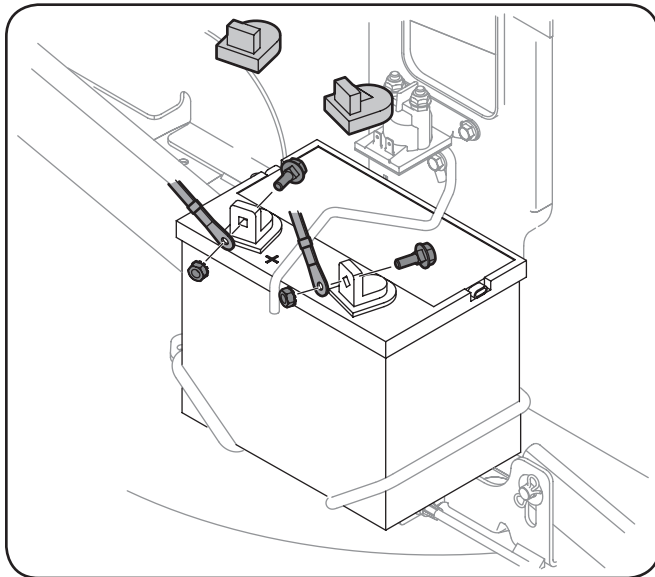

Figure 3-14
2. Remove the plastic cover, if present, from the positive battery terminal and attach the red cable to the positive battery terminal (+) with one of the bolts and hex nuts, previously removed, using a  $\frac{7}{16}$  inch wrench and socket. See Figure 3-14.
3. Remove the plastic cover, if present, from the negative battery terminal and attach the black cable to the negative battery terminal (-) with the remaining bolt and hex nut. See Figure 3-14.